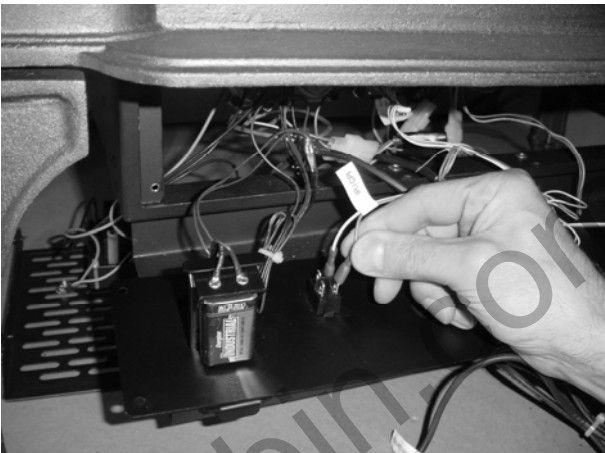
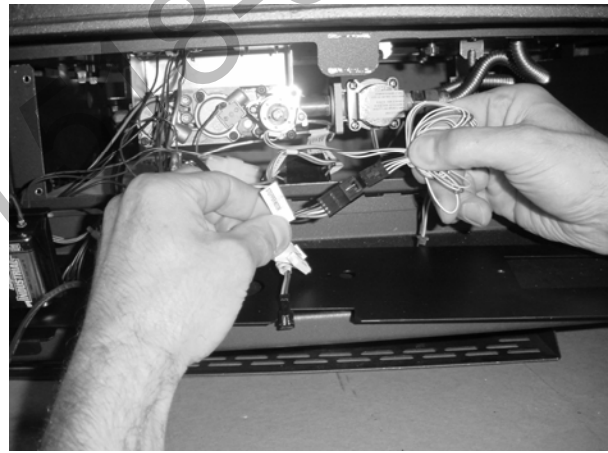

Figure 20
Figure 21
- 13 Attach the blue and white wires to the IPI/CPI switch (see Figure 20). Connect the wiring harness to the stepper motor (see Figure 21).